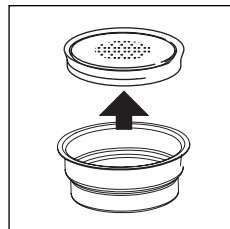

fig. 26
- Remove the crema enhancer from the container by pushing it from the cap end (fig. 26).